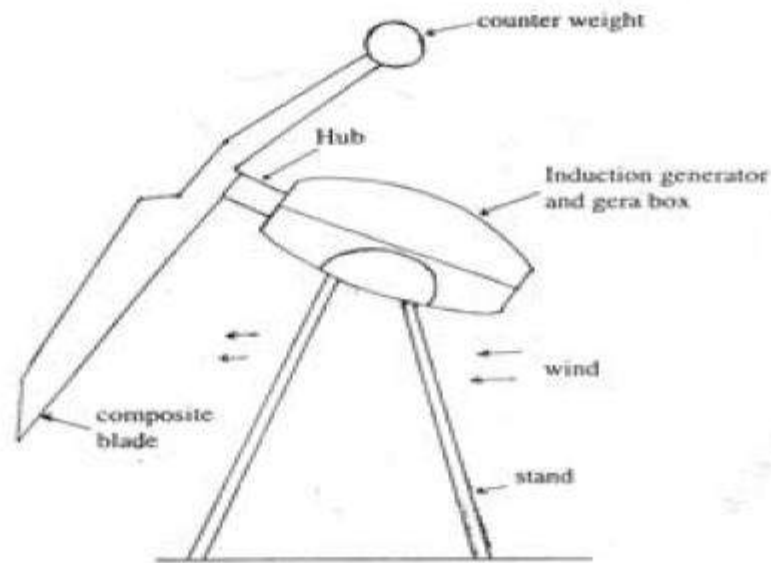

Figure 1.1 : single blade wind mill
i. Horizontal Axis single blade Wind mills If extremely long blades are mounted on rigid hub. Large blade root bending moments can occur due to tower shadow, gravity and sudden shifts in wind directions on a 200ft long blade. Fatigue load may be enough to cause blade root failure. To reduce rotor cost, use of single long blade centrifugally balanced by a low cost counter Weight as shown in fig 1.1.